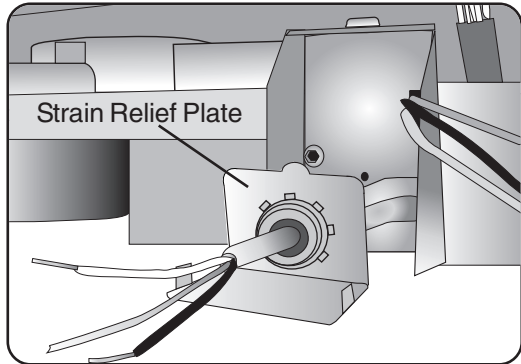

Figure 25
2. Pass the electrical supply cable through the strain relief, as shown in Figure 25. Leave 3 - 4 inches of insulated wire extending through the strain relief plate.